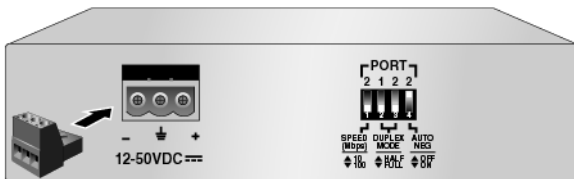

Figure 10 Connecting a Power Connector to the 12-50VDC Version Model
4. Plug the power connector to the 12-50VDC receptacle connector in the rear of the converter, as shown in Figure 10.